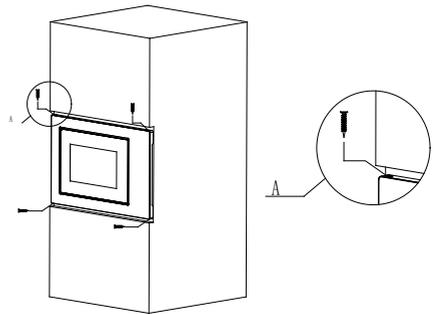

Fig.4
- d) Use the screws of parts packing to secure the microwave oven in the cabinet. (Fig.4)